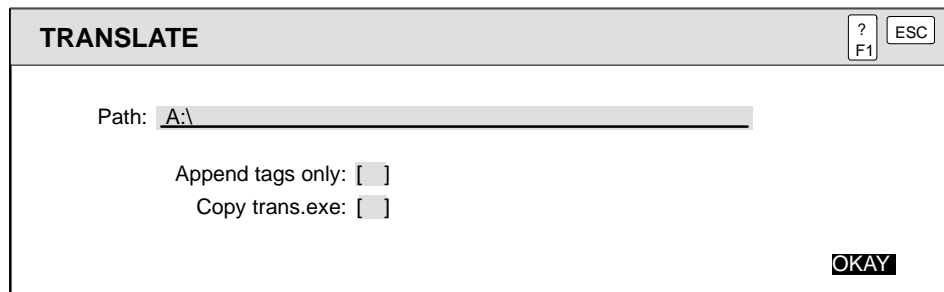

Figure 8-12 Offline Tag Translation to a TISTAR Model 20 System
2. Press **[L]** or use the **OPTs** icon to select **Translate**. Figure 8-12 shows an example dialog box.